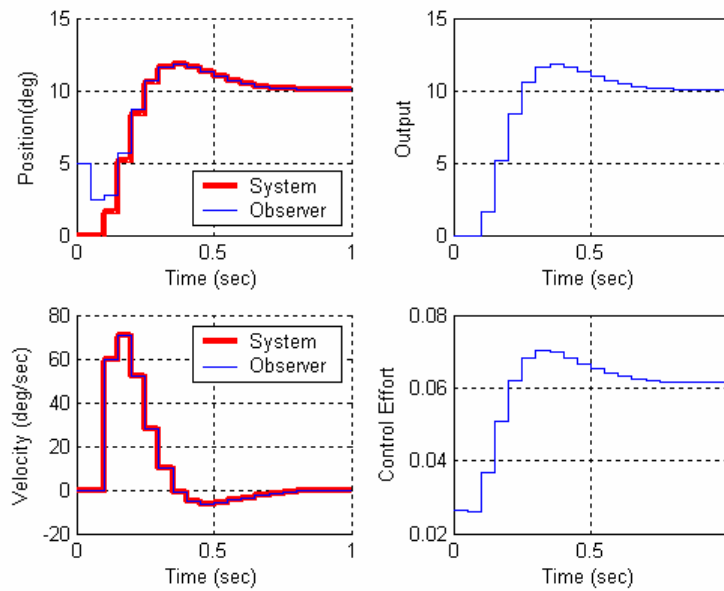

Figure 2. Results for part 1e.
e) Now assume the same condition as in part c, but place the observer poles at 0.45, 0.5, and 0.55 (you will need to use the **place** command to place the poles.) Assume both the position of the first disk (state 1) and the delayed control signal (state 3) are available to the observer. (Hint: C is a 2×3 matrix) However, the output is still the position of the first disk. Simulate your system, you should get a result like that in Figure 2. Note that the observer has more information to work with here, so it does a better job of estimating the states. Turn in your plot.